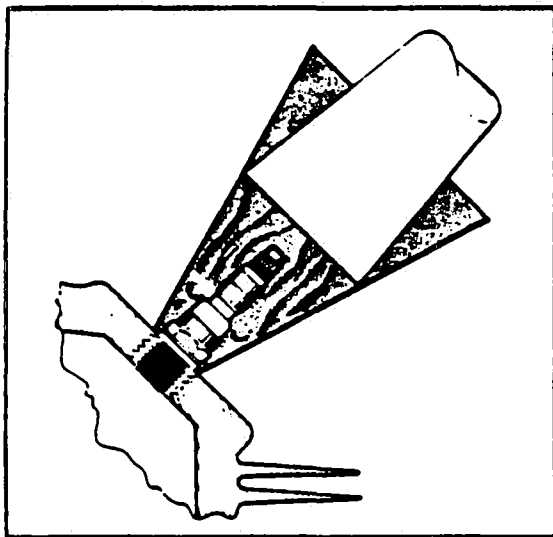

Figure 8-27. Removing Frozen Spark Plug
d. Removal of seized spark plugs in the cylinder may be accomplished by application of liquid carbon dioxide by a Conical metal funnel adapter with a hole at the apex just large enough to accommodate the funnel of a CO2 bottle. (Refer to Figure 8-27.) When a seized spark plug cannot be removed by normal means, the funnel adapter is placed over and around the spark plug. Place the funnel of the CO2 bottle inside the funnel adapter and release the carbon